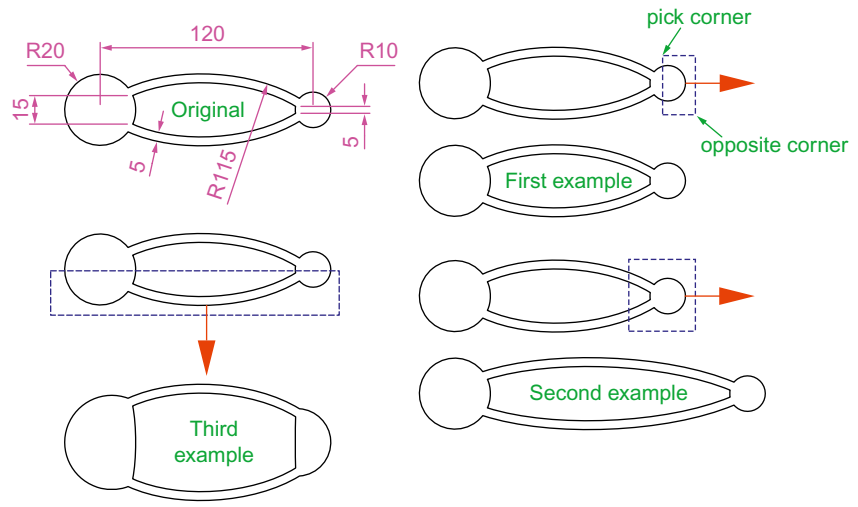

Fig. 5.34 Examples – Stretch
### Examples – Stretch (Fig. 5.34)
1. Construct the drawing labelled **Original** in Fig. 5.34, but do not include the dimensions. Use the **Circle**, **Arc**, **Trim** and **Polyline Edit** tools. The resulting outlines are plines of width = 1. With the **Copy** tool make two copies of the drawing.
In each of the three examples in Fig. 5.34, the broken lines represent the crossing windows required when **Stretch** is used.
2. Care must be taken when using this tool as unwanted stretching can occur (Fig. 5.34).